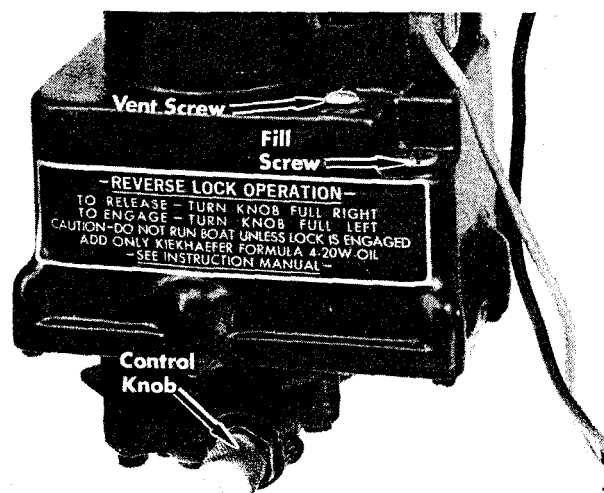

Figure 35. Control Knob and Fill Plug - Power Trim
1. Rotate control knob (Figure 35) full to the "right" (clockwise). This releases reverse lock and allows tilting up by hand from down position only. Manual control knob will not release to down position when it has been tilted up with pump.
2. Remove "Fill" plug. (Figure 35)